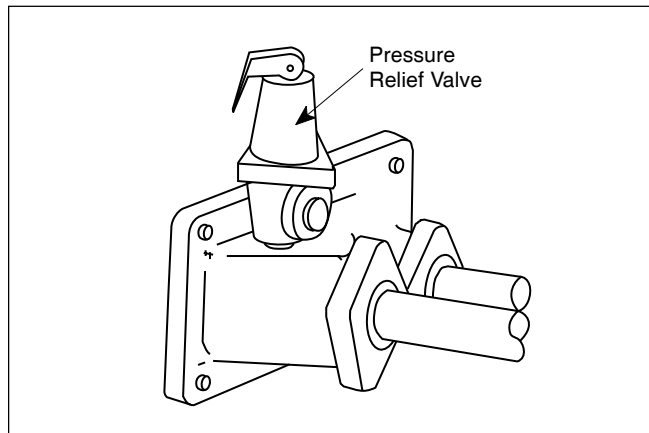

Figure 12. Pressure Relief Valve Location.
2. The pressure relief valve installed in the tapped opening provided in the outlet header (See Figure 12), must be piped, but not fastened, to a drain or floor sink. The drain pipe must be the same size as the valve outlet and must pitch downward from the valve.